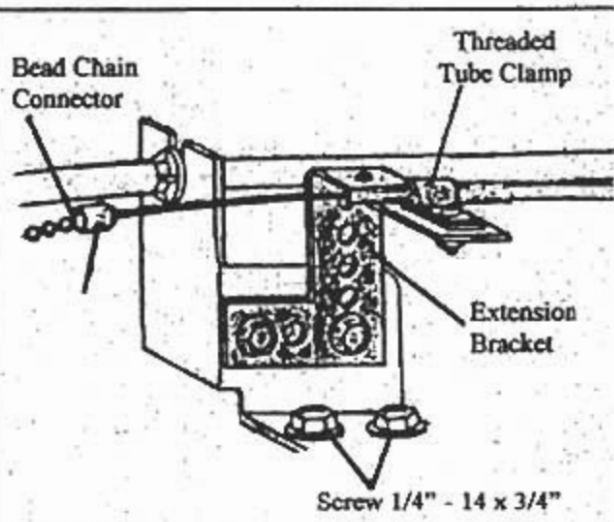

FIGURE 29
4. The Threaded Tube Clamp may also be used to anchor the Cruise Cable using the Extension Bracket. (Figure 29)